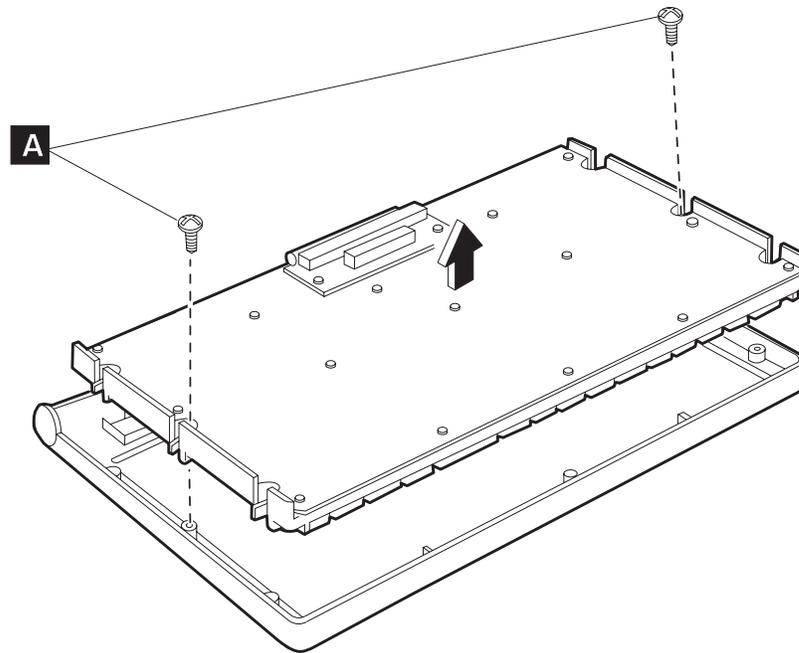

Figure 64. Removing the screws
4. Remove the two screws (**A** in Figure 64 on page 65).